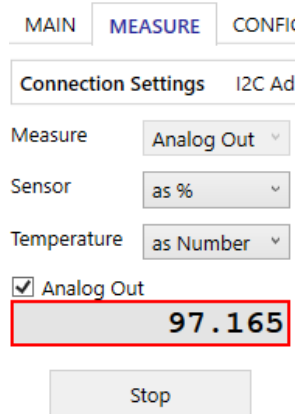

Figure 121. AOUT — Measure
**Note:** before starting the measurement with the “Start” button (see Figure 121), it is necessary to save configuration in NVM (by the “Write Memory” button in the GUI main tab) and to make sure the output is present on J10 pin 2-3.